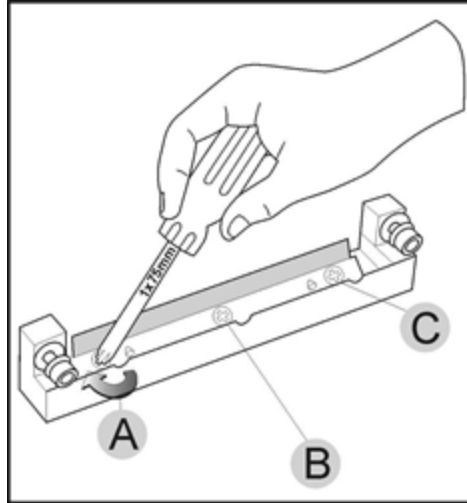

Figure 4-60 Tightening the roller scraper screws
- Tighten the screws in the order shown in Figure 4-60.